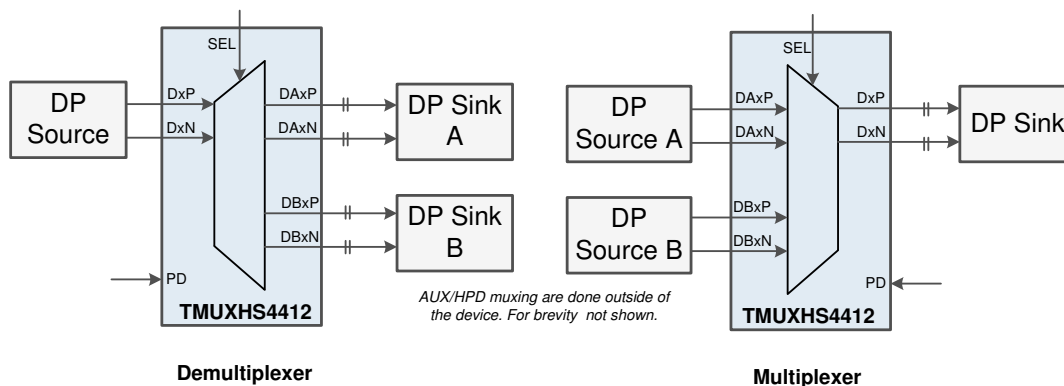

图 8-7. DisplayPort Main Link Demuxing/muxing
图 8-7 shows an application block diagram to implement DisplayPort (DP) main link switch either in mux or demux configuration. Note DP link also has sideband signals such as Auxiliary (AUX) and Hot Plug Detect (HPD) which must be switched outside of this device.